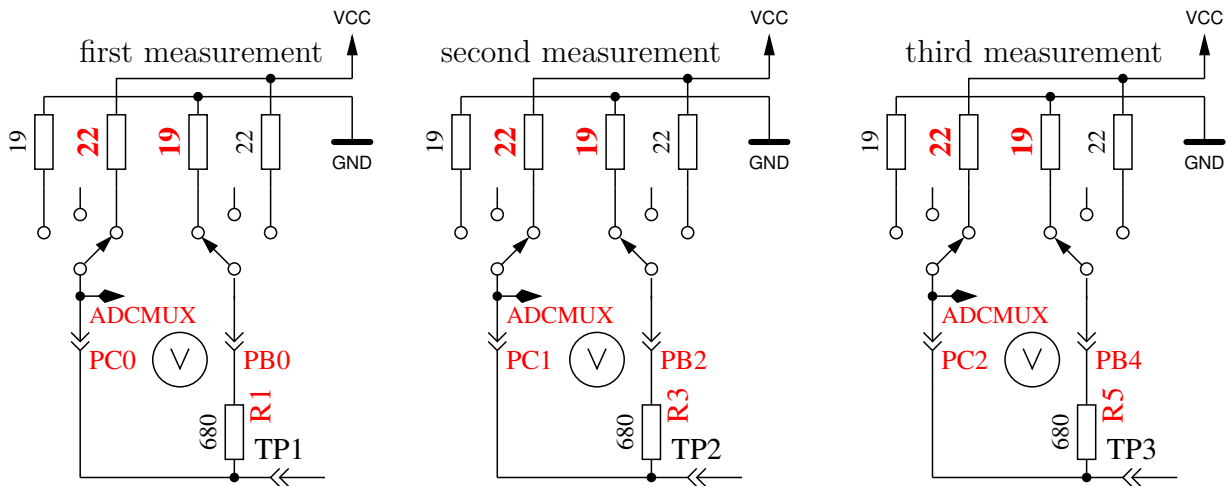

Figure 5.67. Measurement of internal resistance of Port C switched to VCC
9. **Measuring of internal resistance of port outputs switched to the VCC (+)signal.** The needed current is generated with to GND connected  $680\Omega$  resistors . It are the same measurements as those in test 8 to the other side as you can see in Figure 5.67. With the following steps the resistance is computed: To get the current, the following is computed:  $(VCC - (resultoftest8) - (resultoftest9))/680$ . To get both resistor values, the voltage (result of test 8 or 9) is divided by this current. The result for this test will then be notified in row 1 with the text “RI\_Hi=”, the resistance value ( $\Omega$ ) to the GND side is displayed in row 2 with the text “RI\_Lo=”. Beginning with version 1.06k of the software, the port output resistance values are determined at the beginning of every measurement. The values are only shown by this step.